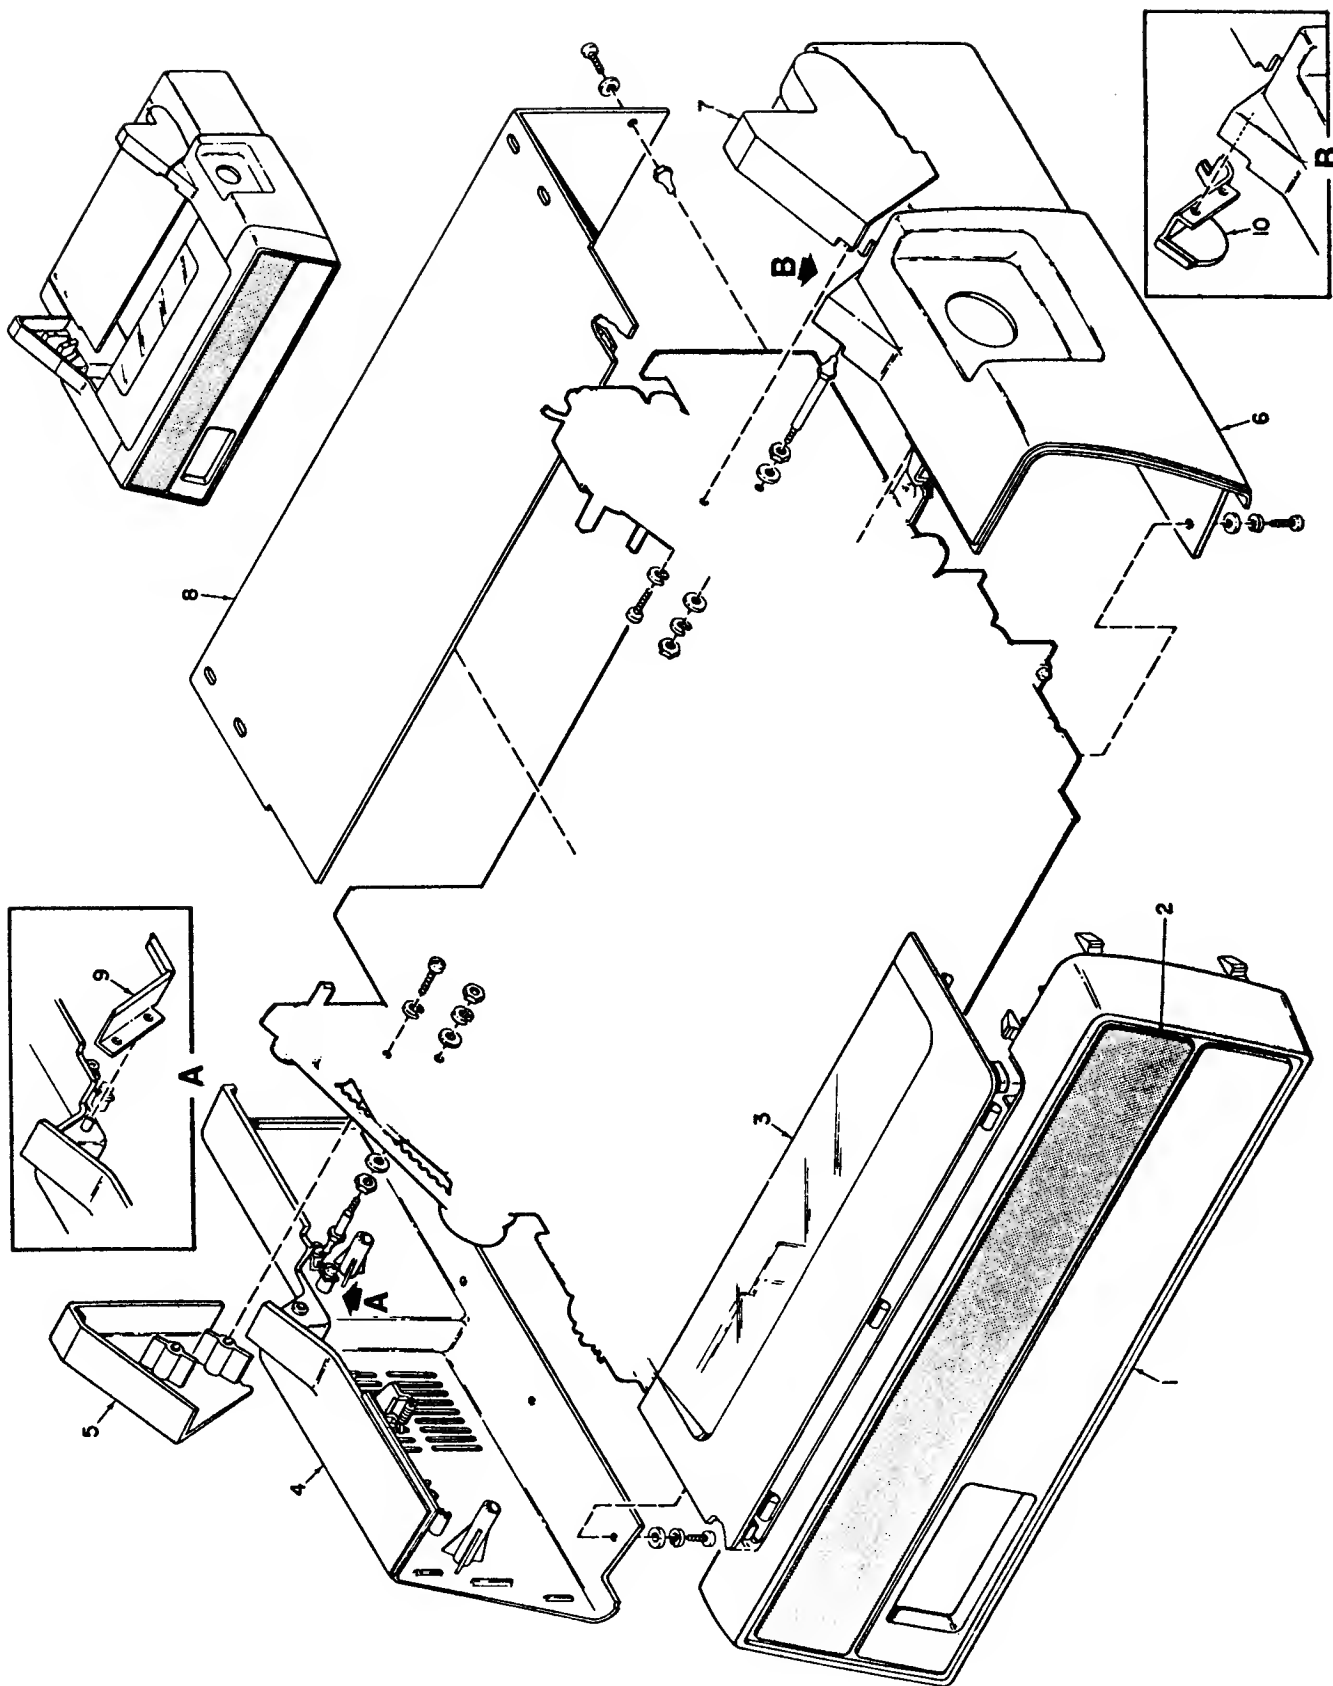

Figure 3-2. COVER ASSEMBLIES
3.3 COVER ASSEMBLIES (Figure 3-2)